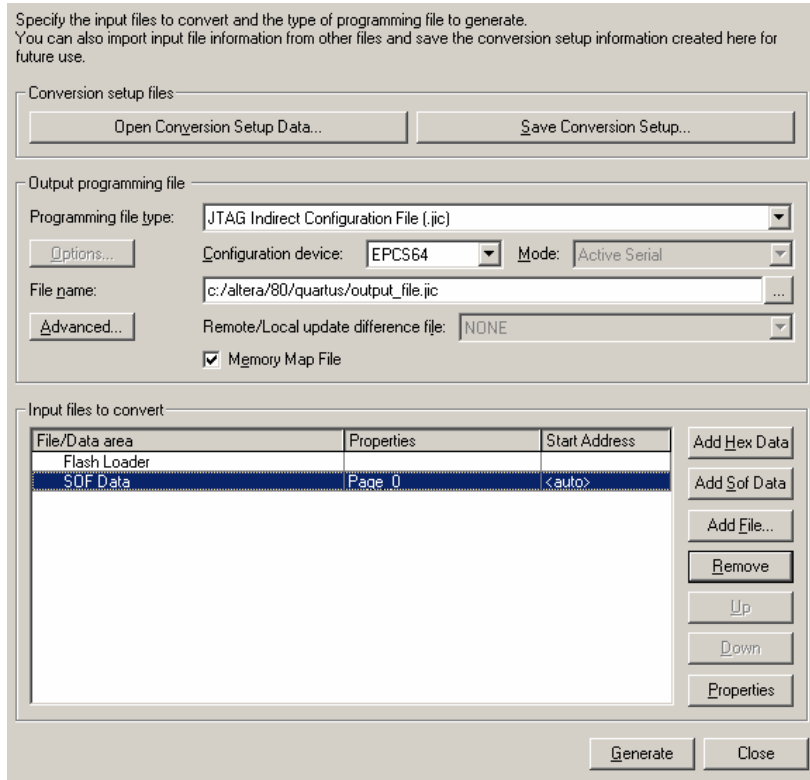

Figure 0.1. Convert Programming Files Dialog Box
5. Select the “**SOF Data**” in the Input files to convert section, as showing in Figure 0.1.